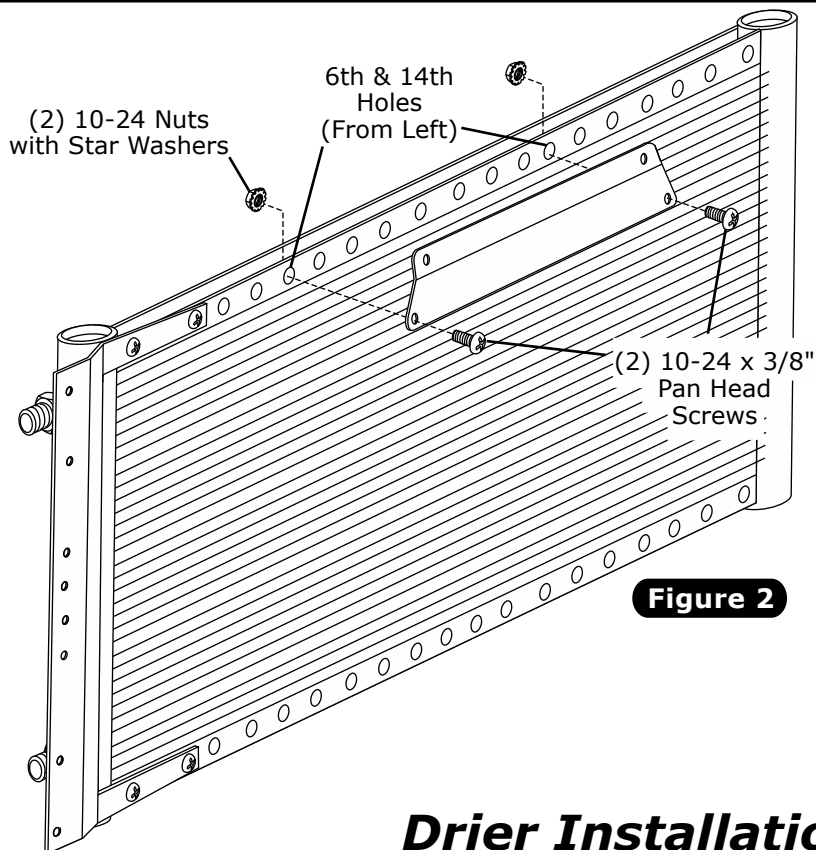

Figure 2
1. Install top mounting bracket onto condenser using (2) 10-24 x 3/8" pan head screws and (2) 10-24 nuts with star washers as shown in Figure 2, below. **NOTE: Bracket mounts through the 6th and 14th holes from the left side of the condenser.**